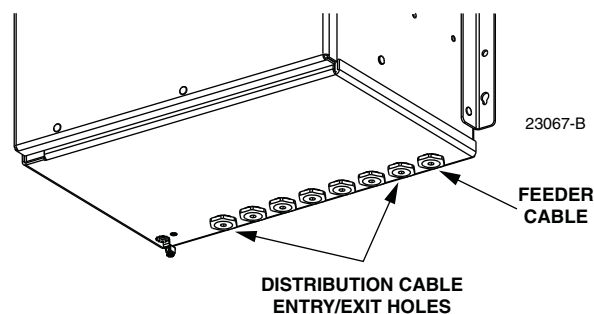

Figure 51. Distribution Cable Entry/Exit Holes
2. Locate the cable entry/exit holes (on the bottom of the cabinet) that are specified for distribution cable installation as shown in Figure 51.